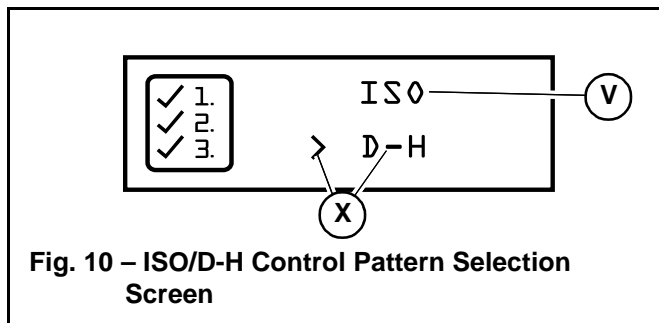

Fig. 10 – ISO/D-H Control Pattern Selection Screen
- Press and release the interface button until the selection caret points to the “D-H” selection (X, Fig 10). Press and hold the interface button for 5 seconds.
D-H control pattern option deactivation is identical to activation, with the exception of moving the selection caret to the “ISO” selection (V, Fig 10).